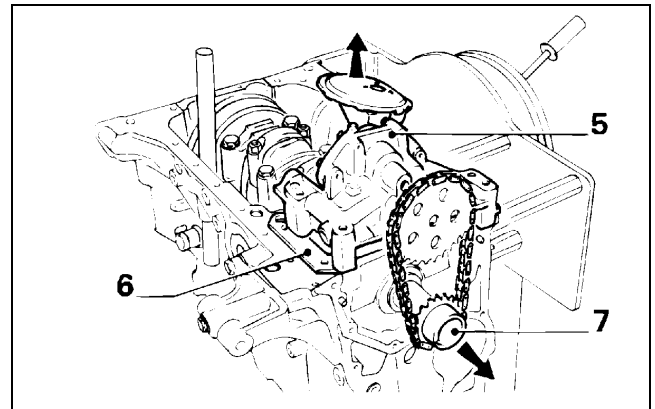

Figure 60
2. Remove the bolts (Fig. 60, Item 1, 2, and 3).